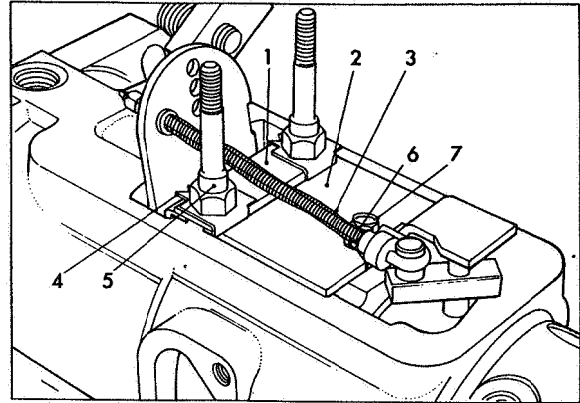

Fig 62 Fitting governor linkage
Position the keep plate (1) Fig 62 on the control bracket (2) so that the slotted end faces away from the linkage hook assembly (3). Position the two new tab washers (4) with the lips positioned nearest to the metering valve and engaging the long edge of the keep plate. Screw in the two governor control cover studs (5) and finger tighten. Place a new bracket screw tab washer (6) in the correct position shown with the tail bent down over that edge of the control bracket lying under the hook of the linkage assembly. Insert new bracket screw (7) and tighten bracket screw and control cover studs to correct torque value. Lock all tabs.